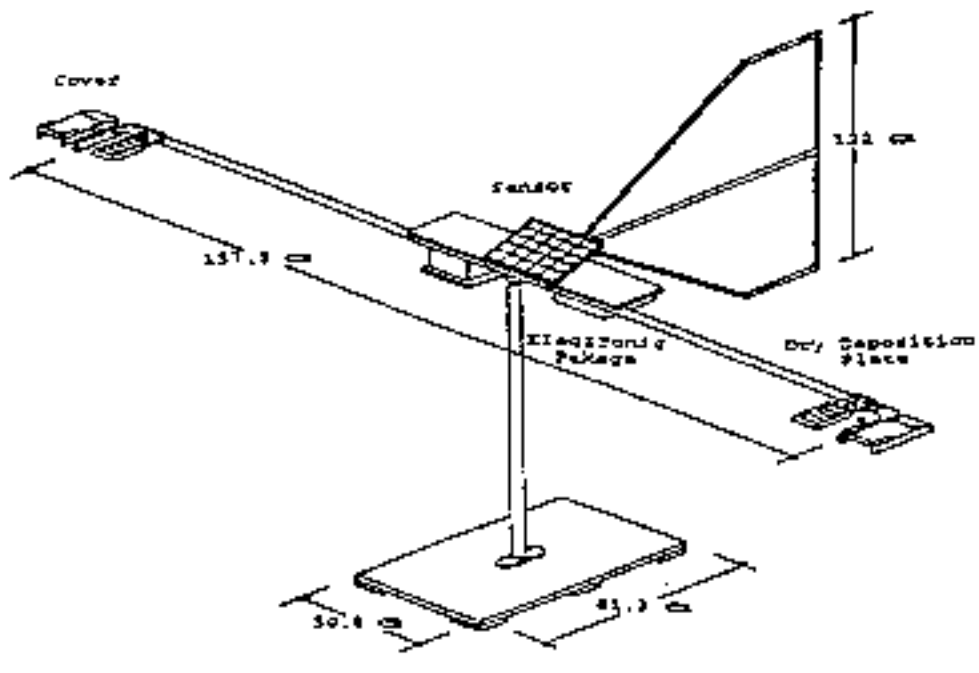

Figure 1. Drawing of Eagle II
During sample plate set-up and removal, the operator must be very careful not to touch the greased strip surface. This is very important to maintain sample integrity. During sample collection the dry deposition plates are taken out from the Rubbermaid sample container and placed on each side of an automatic dry deposition sampler (EagleII--see Figures 1 and 2) about 2 meters above ground level.
- 2.2.2.3 Perform a wet test by putting a little bit of water on the Eagle sensor (see Figure 1) to make sure the Eagle covers on both sides close when the sensor is wet and reopen when it is dry.